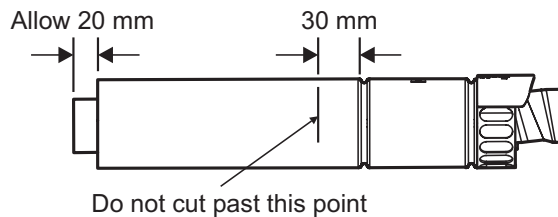

Fig. 4.6
4.7 REDUCING THE FLUE - Fig. 4.6
The flue can be cut to the required length, providing the dimensions shown in Fig. 4.6 are maintained.